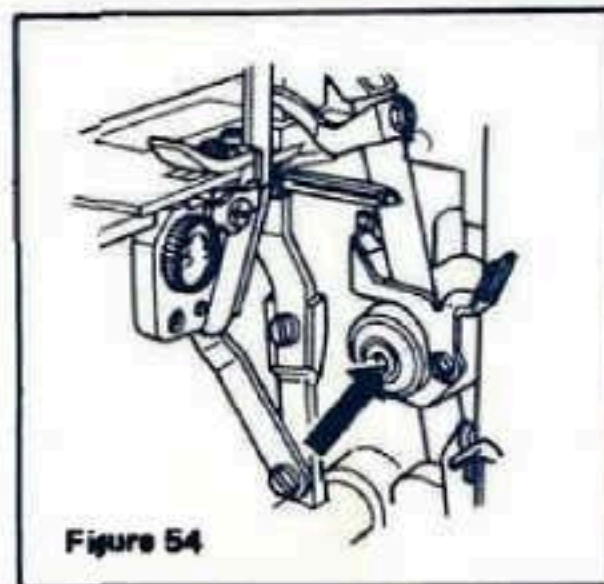

Figure 54
4. In the center of small black wheel (Figure 54). *1 M 2 in. paper*